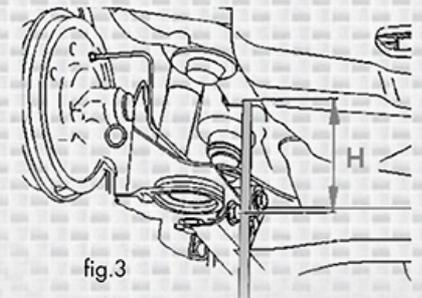

fig.3
- Place a jack lift axle under the rear axle, then lift the rear axle until a dimension o (H) of 160mm (Fig. 3)